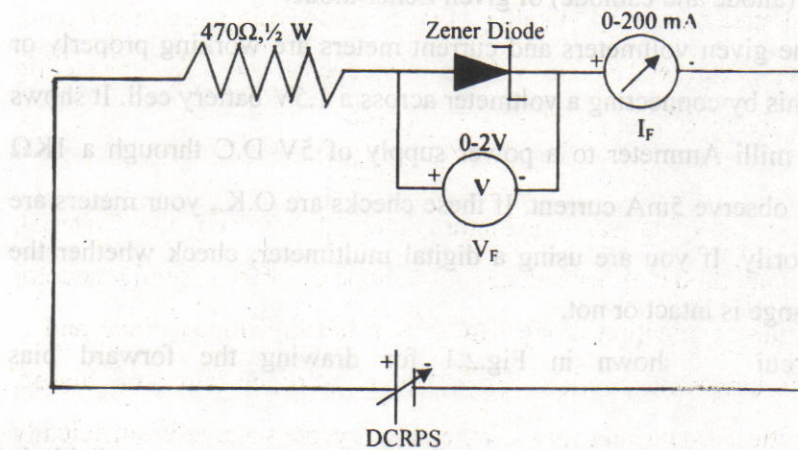

Fig.2.1
4. Connect the circuit shown in Fig.2.1 for drawing the forward bias characteristic.